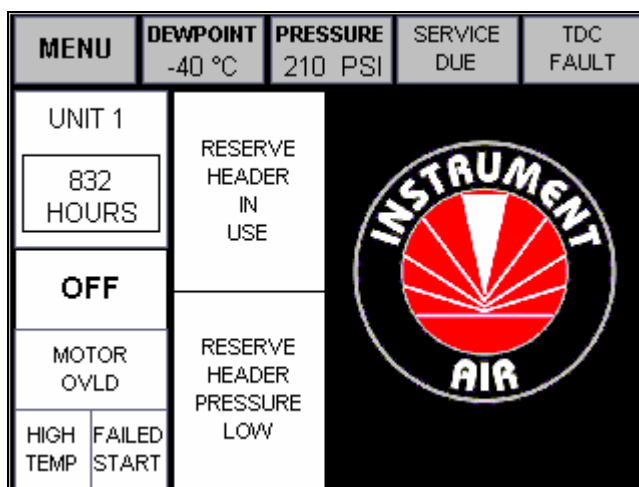

FIG E.2.a. Main Panel Screen (Simplex System shown)
The main screen for Simplex Systems will monitor and display the systems dew point reading, air receiver pressure, total run hours and run status (HOA switch position). Included on this screen is a service due alarm, and transducer fault alarm for the system as well as alarms for motor overload, high discharge air temperature, failed start alarms, reserve header in use and reserve header low pressure. The “MENU” button in the upper left corner will allow the operator to navigate through the screens to view the system alarm history, service schedule and records, dew point and pressure trends, basic troubleshooting and system general information. When the HMI is powered up the main control window will appear on the display screen (See FIG E.2.a.). This touch screen displays the systems current dew point reading, pressure, total hours run, HOA switch setting and status of service schedule and alarm conditions.
4. “SERVICE DUE” Button: Service intervals and types of service are preprogrammed into the HMI. The button will flash yellow when service is due. Pressing the “service due” button when flashing will display the service schedule screen (FIG E.2.d.). See E.2.1.c for full description of these functions.